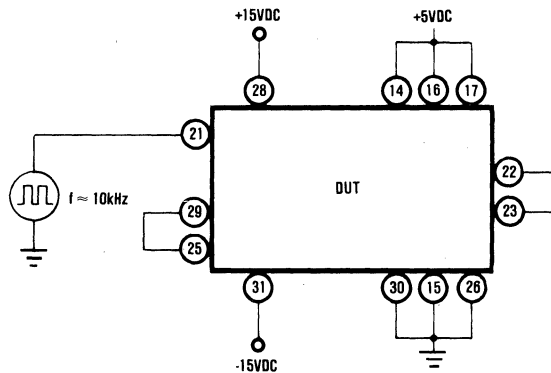

FIGURE 5. Test Circuit, Burn-in and Operating Life Test.
- (1) Test condition B
- (2) Test circuit is Figure 5 herein
- (3) $T_A = 125^\circ\text{C}$ minimum
- (4) Test duration is 160 hours minimum
- (4) Test duration is 1000 hours minimum